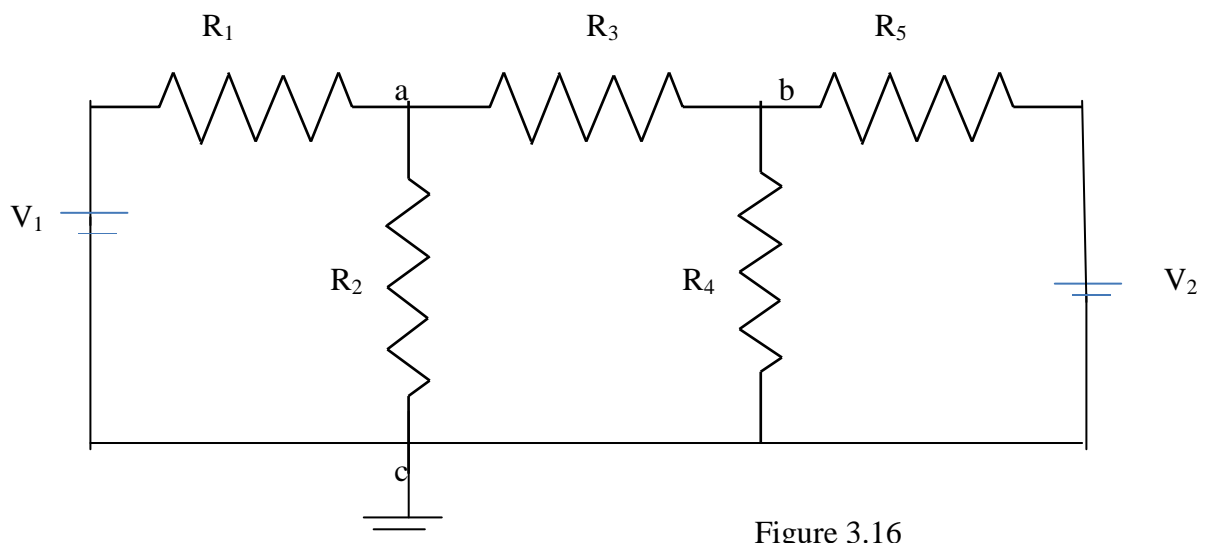

Figure 3.16
3.6 NODAL EQUATIONS BY INSPECTION METHOD The nodal equations for a general planar network can also be written by inspection without going through the detailed steps. Consider a three node resistive network, including the reference node, as shown in fig 3.16
In fig. 3.16 the points a and b are the actual nodes and c is the reference node.